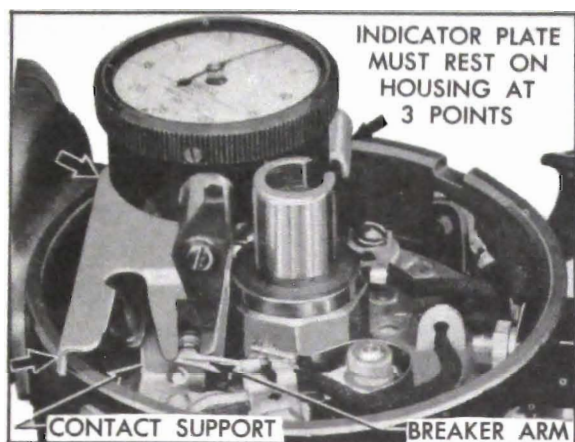

Figure 10-58—Indicator for Checking Contact Point Opening
8. Depress stem of Indicator J 3955-A so that attached finger will clear breaker arm then slip indicator locator over the contact support so that it straddles the point; release indicator stem. The long end of finger must be set so that the edge bears against breaker arm close to the point, and base plate of indicator must contact distributor housing at three points. Set dial indicator at zero. See figure 10-58,